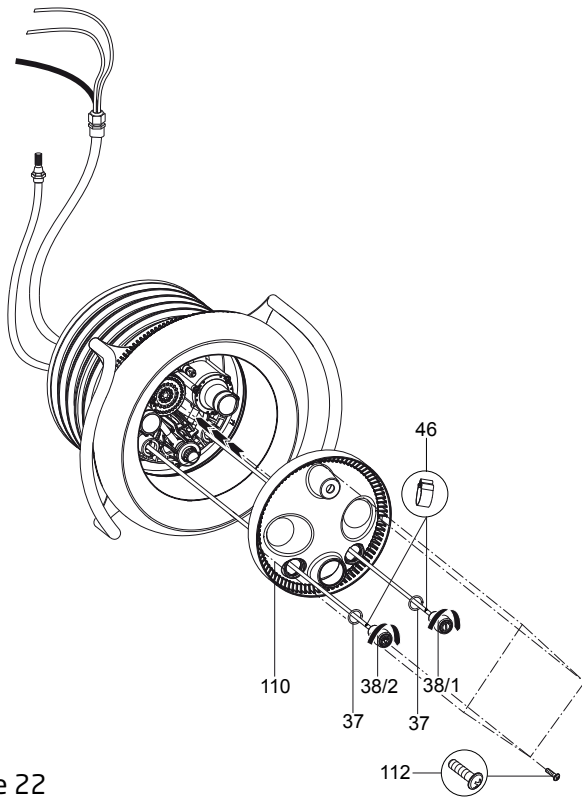

Figure 22
9. Guide the air tubing through the two (2) bottom openings of the light cover (part# 110). *NOTE: Light ON/OFF button is on the left and the pump ON/OFF button is on the right.* Align the light cover with the nozzle housing and secure with four (4) light cover tapping screws (part# 112). (See Figure 22)
10. Slide one (1) o-ring (part# 37) onto each air button. Fasten each length of air tubing to the corresponding buttons using the hose clamps (part# 48). Insert the two (2) air buttons through the light cover and into the nozzle housing and lock them by turning them clockwise until they "click" into place.